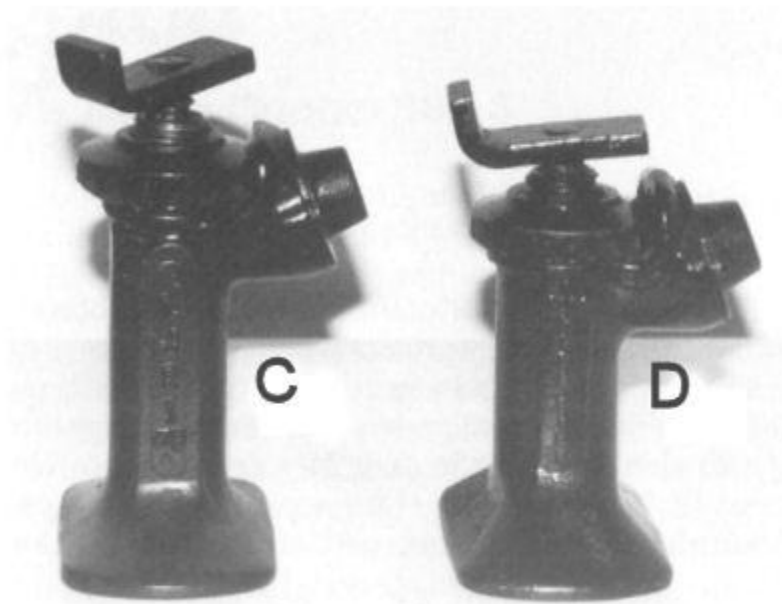

Figure 7
C. 11B5195 is a Shelley jack having LJ21 cast vertically down the side opposite the SHELLEY (see Jack C in Figure 7). Below the 21 is a number that probably corresponded to the year the jack was made-55, 56, etc. The numbers are cast in raised letters, just like the LJ21, and would have required modifying the mold each year-i.e. this "year" number was not just stamped in on a flat area of the jack body. This jack was used on most of the BN2s (the bottom number should read 55 or 56), and also on all 6-cylinder cars up through BN7 10610 or BT7 10564 (the bottom number would read 57, 58, 59, or 60). One documented exception is a 1954 BN1 that had this style jack, but with the number 54.
In at least one 3000 Mk 1 car, a King Dick jack has been found that has B 1881 cast into the base (see *The Original Austin-Healey* by Anders Clausager, p. 74). This jack is slightly shorter than the 11 B5195 Shelley jack, but is of almost identical design (see D in Figure 7). The jack handle is identical to that of the Shelley version.